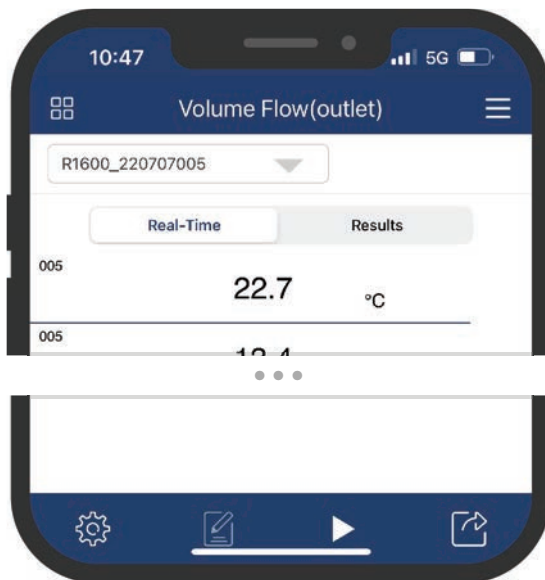
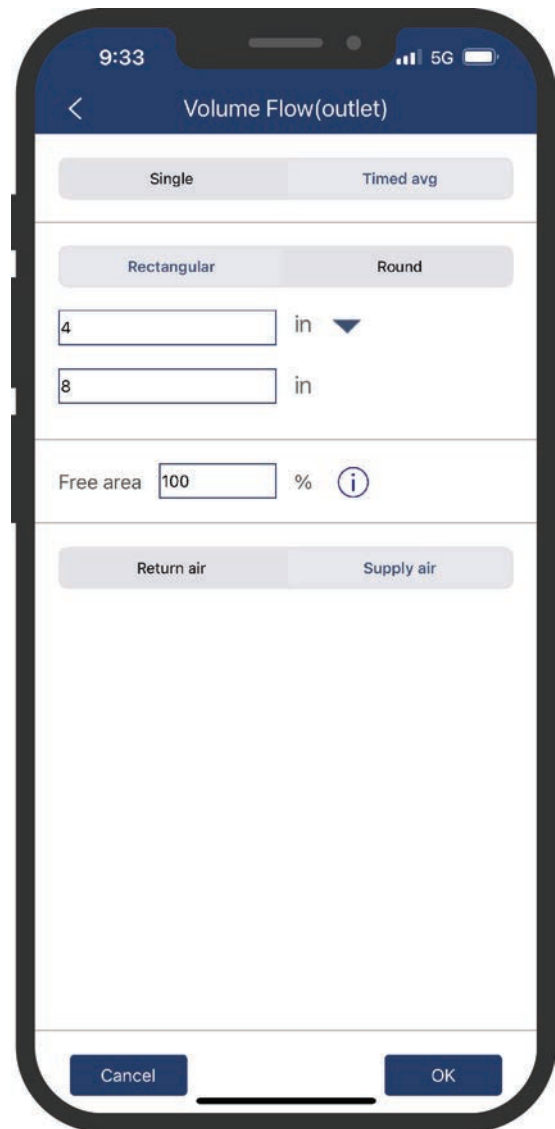

Figure 31
Figure 32
2. While in the application screen, tap the  icon (Figure 31) to access the duct size setup menu. (Figure 32)